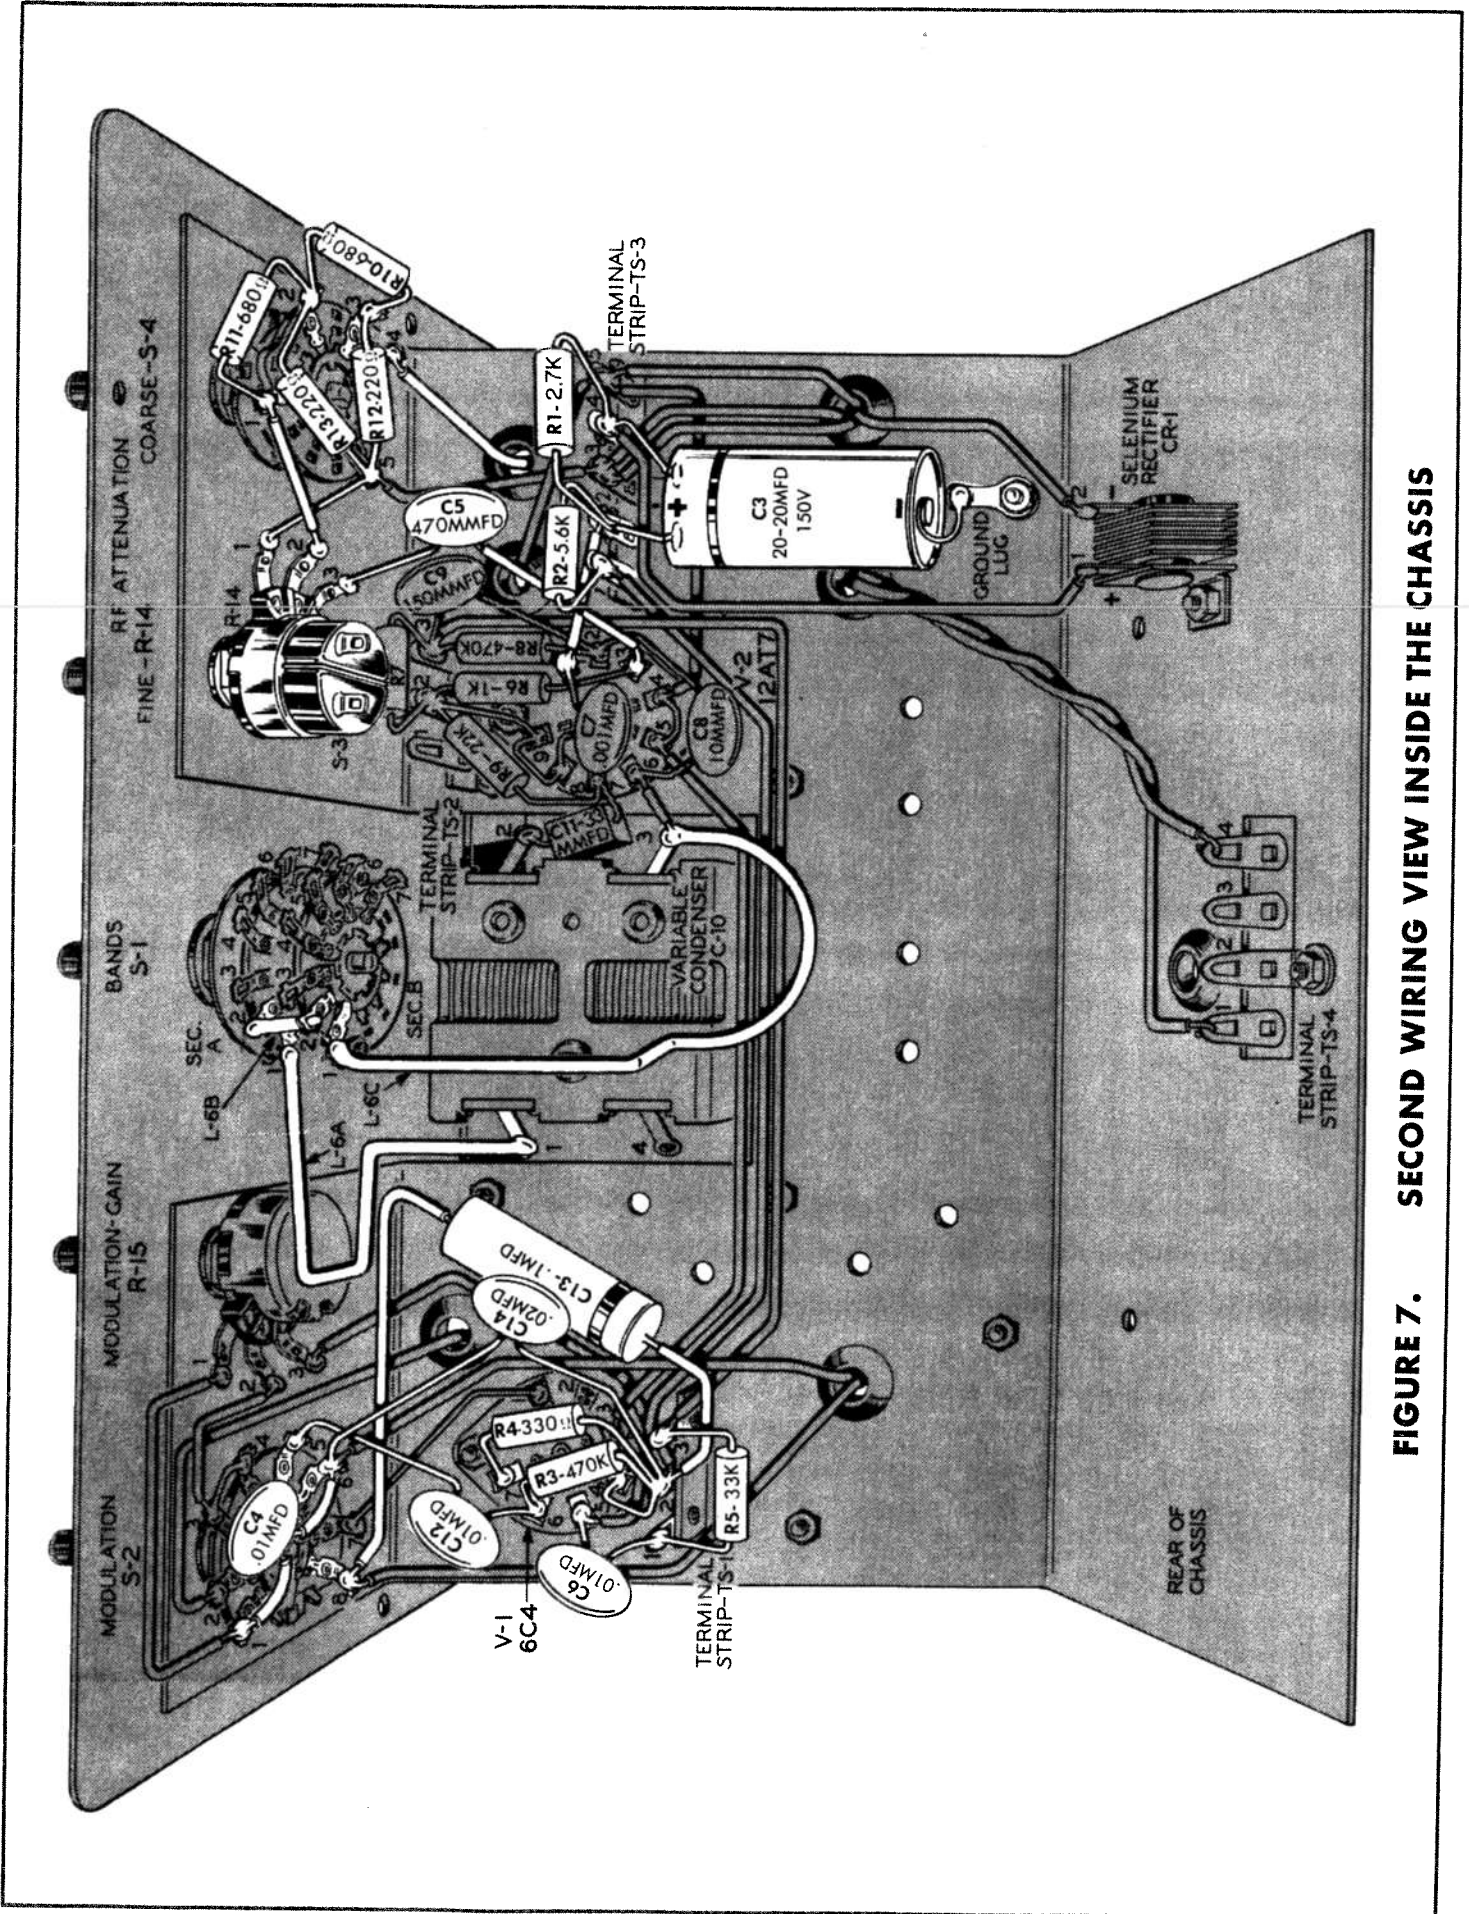

FIGURE 7. SECOND WIRING VIEW INSIDE THE CHASSIS
SEE FIGURE 7.
(S-4) and the Band Switch (S-1). The terminals on the RF output control must be positioned as shown in Figure 7.
(X) There are three coils made of heavy bare copper wire. They are designated L-6A, L-6B, and L-6C. To identify these coils see Fig. 7. When connecting the coils, insert the pointed ends carefully into the connection terminals. Do not bend the coil wire over the terminals. After soldering, make sure the connection is mechanically strong.
(X) Solder one end of Coil L-6A to terminal 1 of C-10, the variable capacitor. See Fig. 7 for the proper positioning of the coil. Solder the other end of the coil to terminal 1, section A, of S-1, the Band Switch. Do not bend the ends of the coils around the terminals.
- (X) Solder one end of coil L-6C to terminal 1, section B, of S-1. See Fig. 7 for proper positioning of the coil. Solder the other end to terminal 3 of C-10, the variable capacitor.
- (X) Solder one end of coil L-6B to terminal 2, section A, of S-1. Connect, but do not solder, the other end to terminal 2, section B, of S-1.